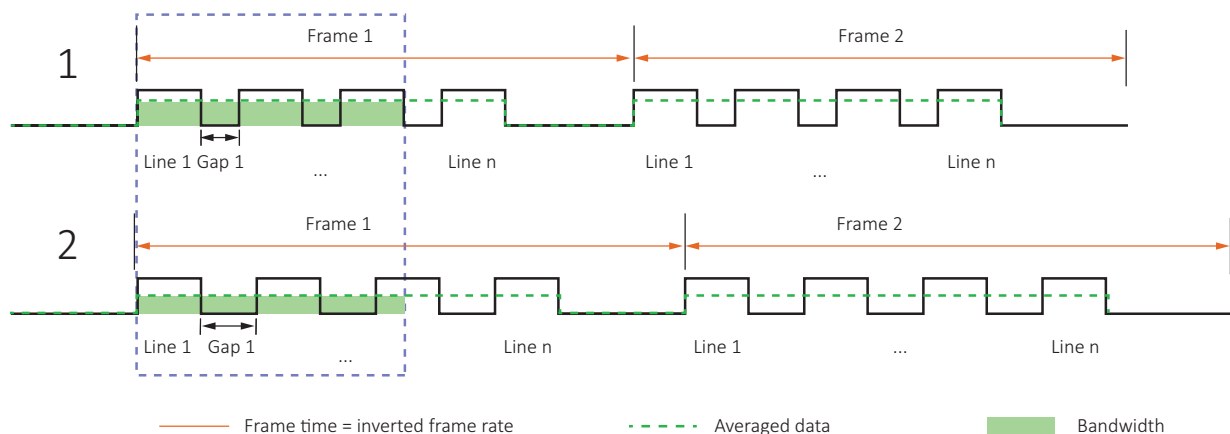

Figure 72: Sensor data output and camera data output
Figure 72 shows the bandwidth for a higher (1) and a lower (2) value for `DeviceLinkThroughputLimit`.